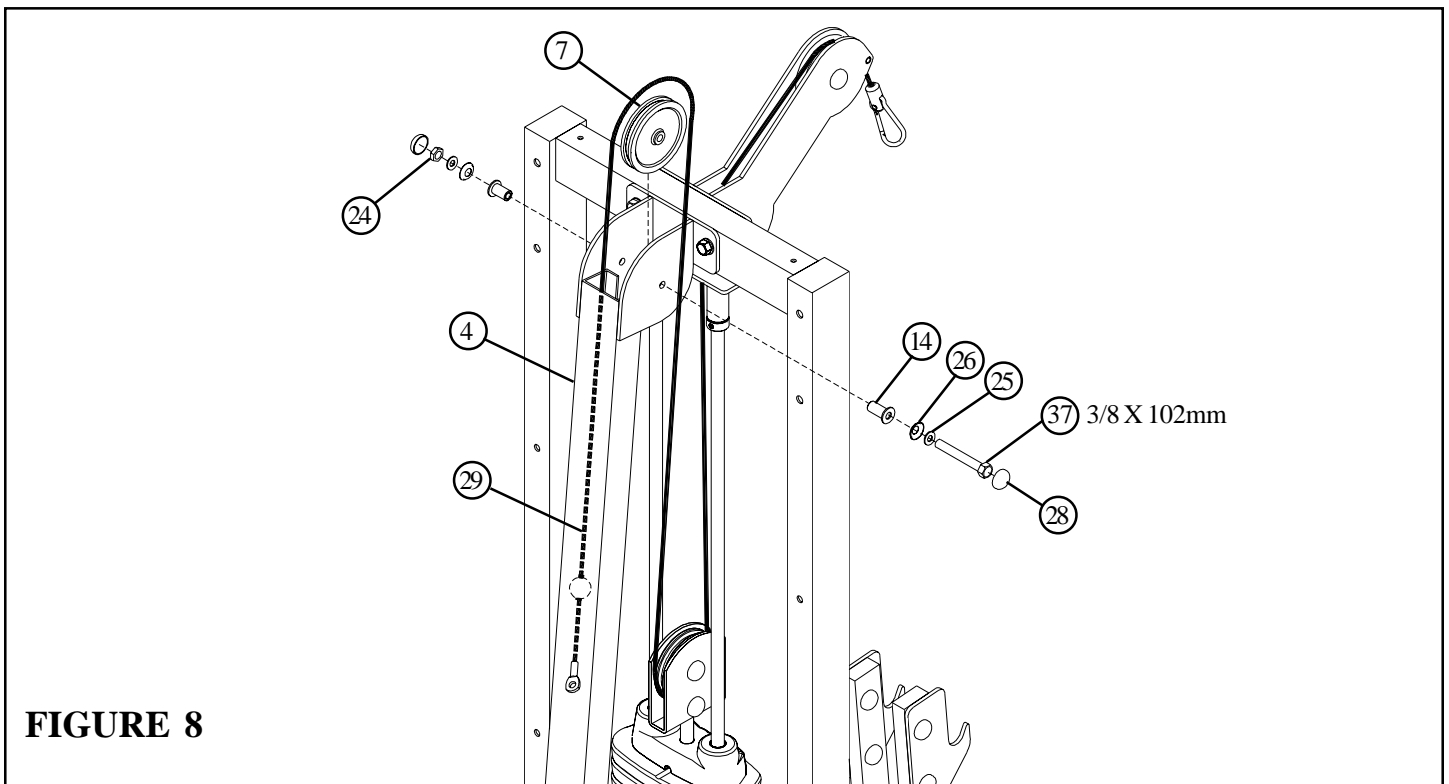

FIGURE 8
- Route the BI/TRI CABLE (29) *inside* the REAR UPRIGHT (4) and **SECURELY** assemble one 4-1/2" PULLEY (7) to the REAR UPRIGHT (4) using two RH CAPS (28), one 3/8 X 102mm BOLT (37), two 3/8" SAE WASHERS (25), two 3/8" RH WASHERS (26), two 3/8 X 1-1/4" FLANGE SPACERS (14) and one 3/8" LOW HEIGHT LOCK NUT (24) as shown in FIGURE 8.